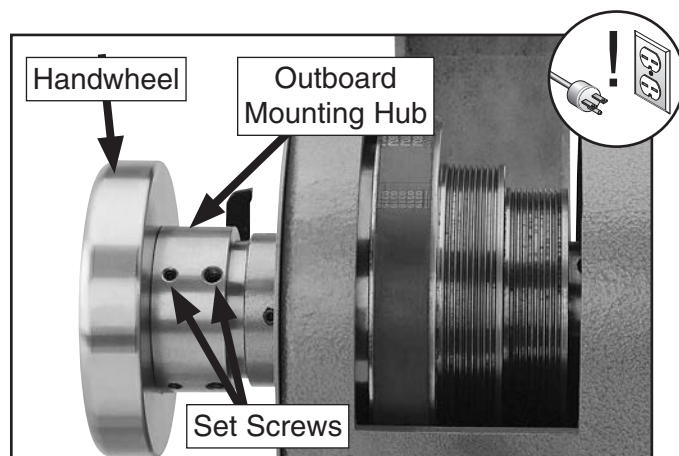

Figure 56. Outboard mounting hub location.
2. Loosen the outer set screws on the outboard mounting hub (see **Figure 56**), unthread the handwheel, loosen the inner set of set screws, then remove the mounting hub.